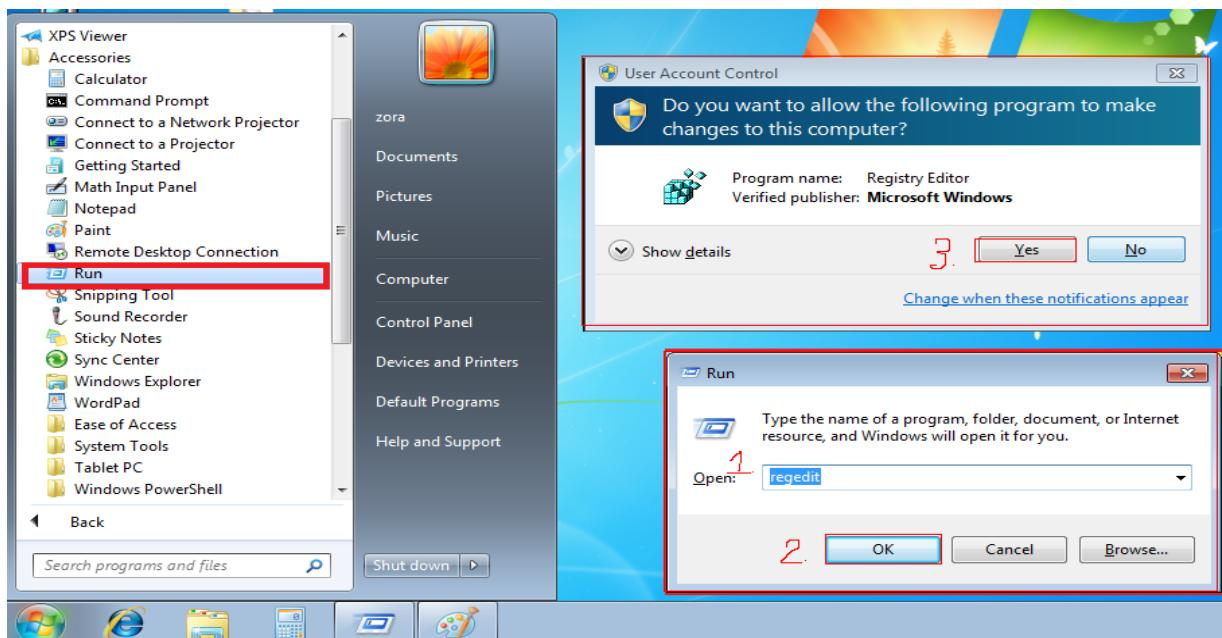

Figure 5-4. Windows 7, regedit.
1. Start → all programs → Accessories → Run → Input “ regedit” , press OK button, See figure 5-4.